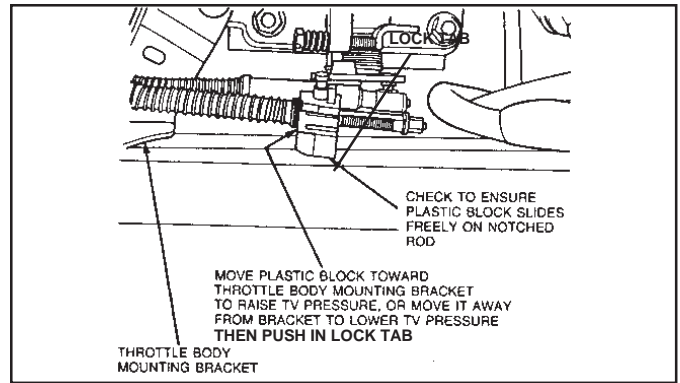

Figure 28
7.12 Using mark or measurement on plastic block as a reference, move plastic block towards throttle body mounting bracket to raise TV pressure, or move it away from bracket to lower TV pressure. Push in white locking tab to lock block in position. **(See Fig. 28.)**